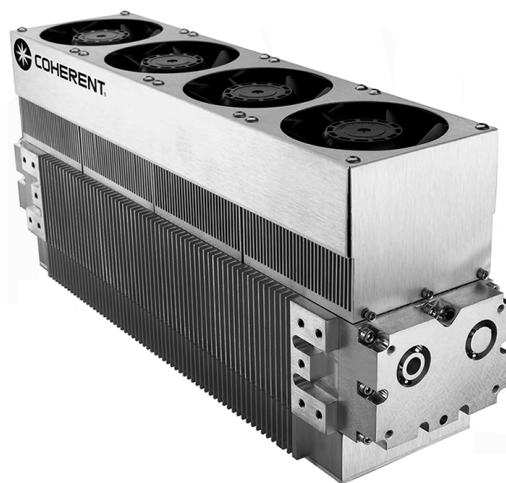
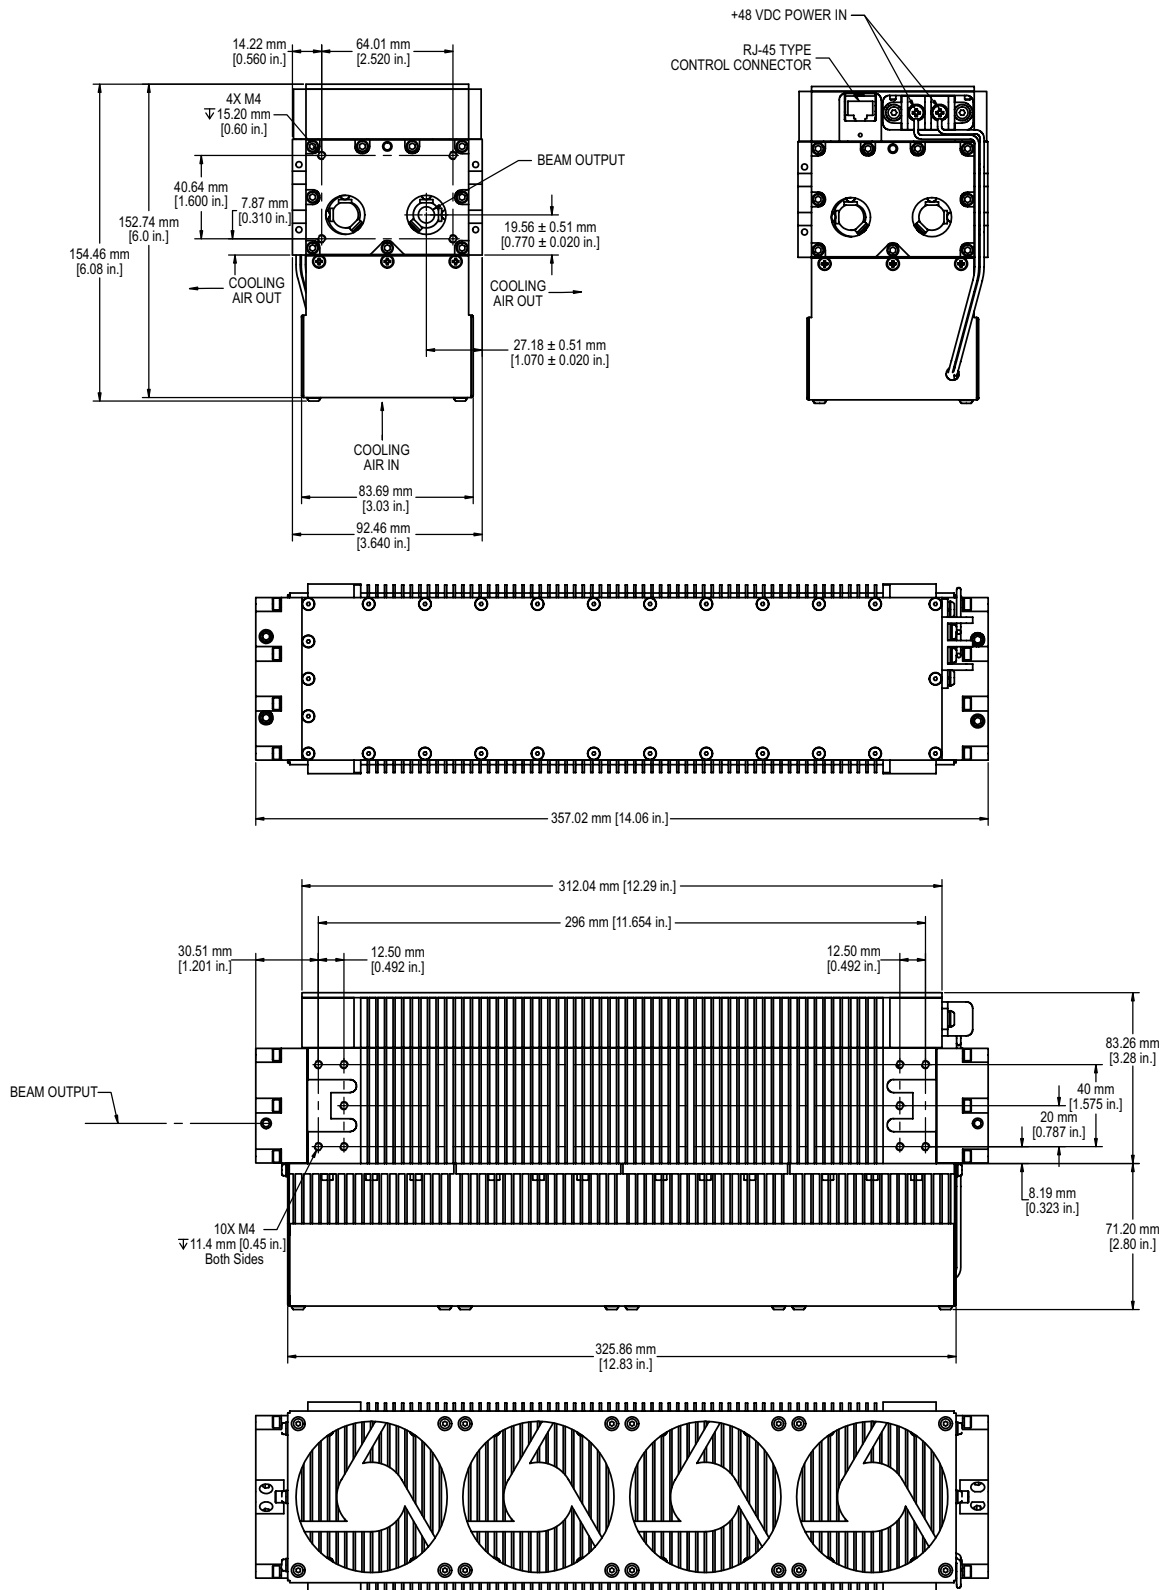

Figure 3-1. C-20 and C-30 Air-Cooled Lasers
Figure 4-2. C-20 and C-30 Air-Cooled Laser Head Dimensions
Figure 3-1 illustrates the baseline configurations (i.e., without any optional hardware additions or deletions) of the C-20 and C-30 lasers. Each laser system consists of a laser head assembly and an integrated radio frequency (RF) power module. The RF power module converts 48 VDC, ≤ 12 A (35 A peak for 1 ms) power to radio frequency power.
The laser head takes RF input power and converts some of it to laser radiation. The rest of the RF input power is exhausted as heat. For the C-20 and C-30 air-cooled lasers, the heat is exhausted into the ambient air. The laser head consists of the folded optical waveguide resonator, the all-metal gas envelope structure, and RF power module. Infrared laser radiation is emitted from the optical aperture. Pictures and dimensional drawings for the C-20 and C-30 air-cooled lasers are shown in Figure 3-1 on page 23 and Figure 4-2 on page 32.
The laser must be secured properly to avoid the possibility of the laser shifting unexpectedly during operation, creating a hazardous condition. The location of the output beam of the C-20 and C-30 laser head is shown in Figure 4-2. The laser output is emitted from the aperture shown in the referenced figure and propagates within a full cone angle up to 5°. The acceptance angle of the system aperture must intercept all of the output of the laser.
The dimensions for the C-20 and C-30 laser heads are shown in Figure 4-2 (p. 32). Mechanical mounting of the C-20 and C-30 laser head must result in no distortion or stress the laser head in any way. Otherwise, optical alignment and power stability could be adversely affected.